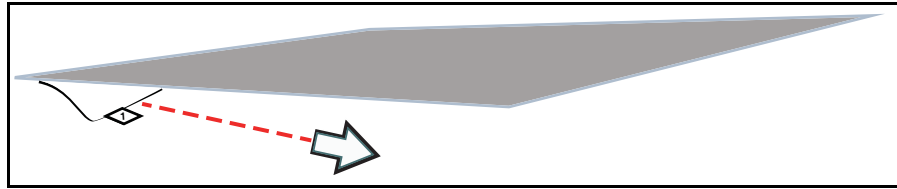

Figure 16-5 Removing rear mask
2. Remove the rear mask (Figure 16-5) from the screen protector.